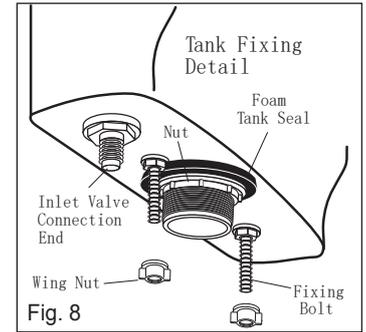

Fig. 8
3. Ensure that the foam seal is fitted onto the tail piece on the underside of the tank as detailed in Fig. 8.